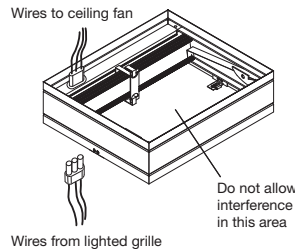

Figure 3 — Electrical Plug For Lighted Grille Kit
2. If using the optional Dayton lighted grille kit, make sure ceiling radiation damper has an electrical plug in it. The electrical plug must be inserted into the fan. Make sure the electrical wire will not interfere with damper operation. See Figure 3.